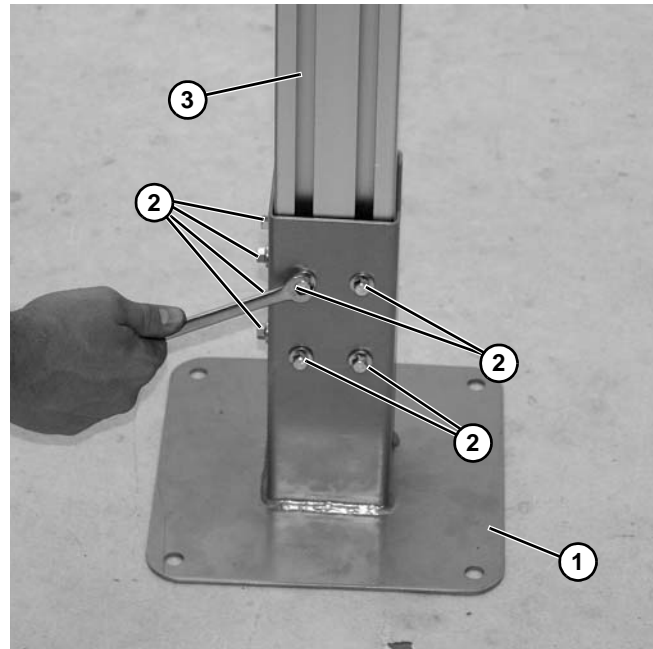

Figure 7
2. To adjust stand foot (Figure 7, item 1), loosen eight socket head screws (Figure 7, item 2) and adjust stand legs (Figure 7, item 3) up or down to the required height. If necessary, adjust height of each leg support until conveyor is level from side to side.
Failure to secure screws (Figure 7, item 2) may cause conveyor sections to drop down causing severe injury.
TIGHTEN SCREWS (Figure 7, item 2) AFTER ADJUSTMENT.
3. Tighten four flange socket head screws (Figure 7, item 2) to 24 ft-lb (33 N-m).